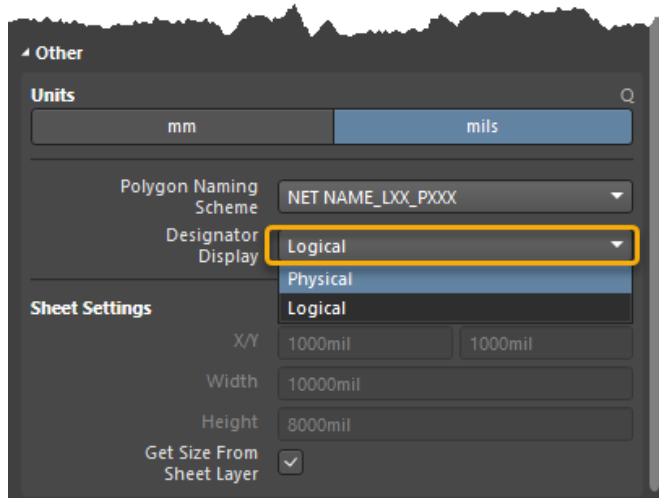

Figure 15. Board Options to Change Designator Display
- Change the **Designator Display** drop-down from **Physical** to **Logical** as shown in Figure 15.